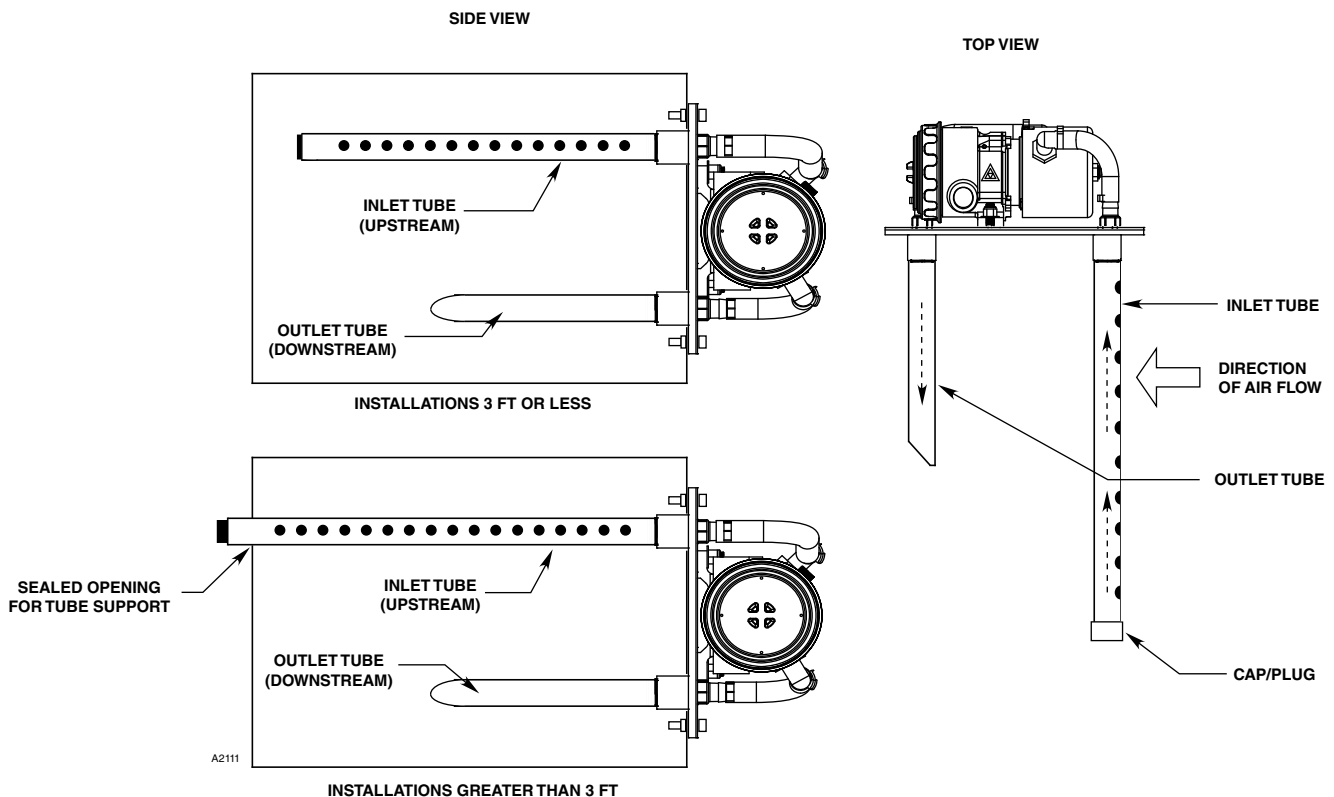

Figure 4—Sample Tube Installation
To ensure proper operation of the sampling tubes, observe proper inlet and outlet tube position and orientation as illustrated in Figure 4.
- Attach the outlet tube to the detector housing by screwing the tube into the coupler and tightening the tube until the opening at the end of the tube (cut at an angle) is facing downstream. This opening must always face downstream or away from the direction of air flow in the duct, as shown in Figure 4. Thread locking adhesive should be applied to the threads to prevent tube movement after the final adjustment.